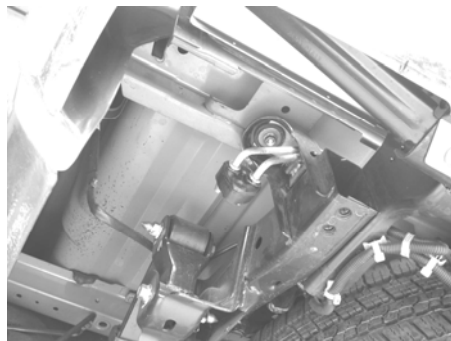

Figure 12
6. At the rear of vehicle just behind each leaf spring, install each hanger/bracket assembly as shown in figure 12. Install a rubber bracket onto each hanger/bracket assembly.